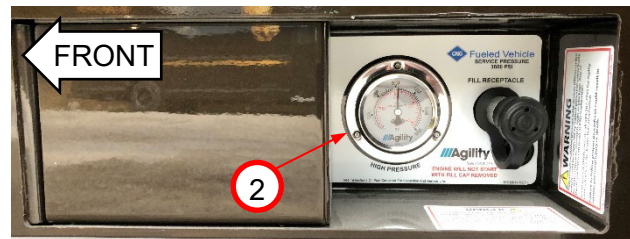
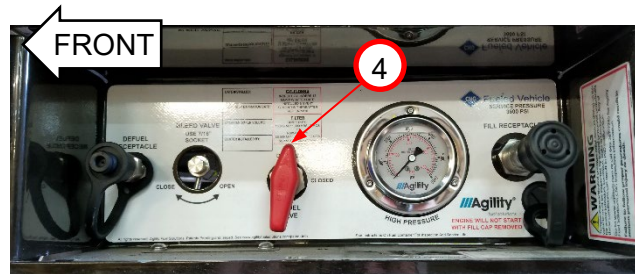

Figure 2:
Figure 4:
7. Check high pressure gauge (2) on vehicle fuel fill panel. The gauge should read zero psi. *Figure 2*
8. Remove fuel fill panel cover (3) to access the defuel valve. *Refer to fuel fill panel cover replacement.*
9. Turn defuel valve handle (4) to the DEFUEL position. *Figure 4*